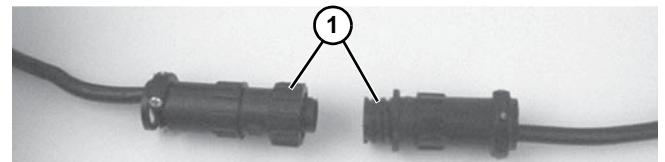

**Figure 14**
1. Loosen terminal box screws (**Figure 14, item 1**) and remove cover (**Figure 14, item 2**).